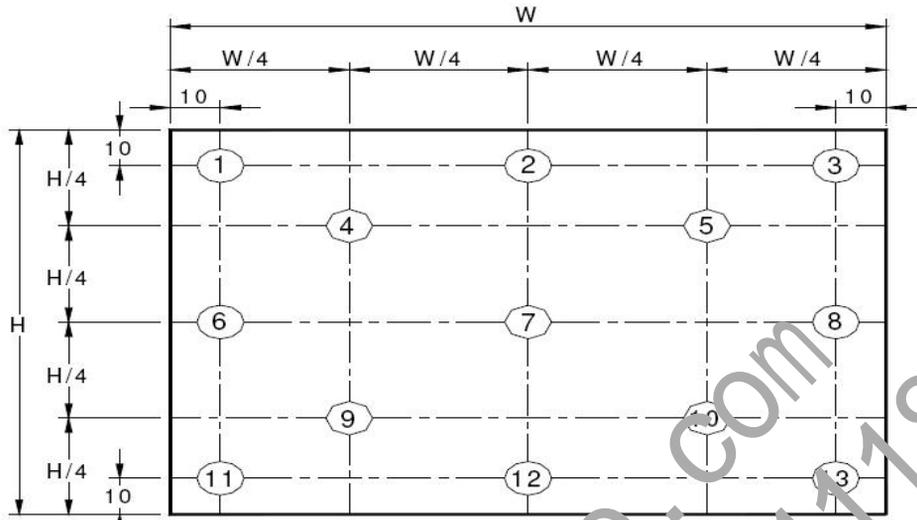

Figure 9. Uniformity Measurement Locations (13 points)
- The White luminance uniformity on LCD surface is then expressed as :  $\Delta Y = \text{Minimum Luminance of 5(or 13) points} / \text{Maximum Luminance of 5(or 13) points}$ .(see Figure 8 and Figure 9).
The White luminance uniformity on LCD surface is then expressed as:  $\Delta Y5$  = Minimum Luminance of five points / Maximum Luminance of five points (see Figure 8),  $\Delta Y13$  = Minimum Luminance of 13 points / Maximum Luminance of 13 points (see Figure 9).